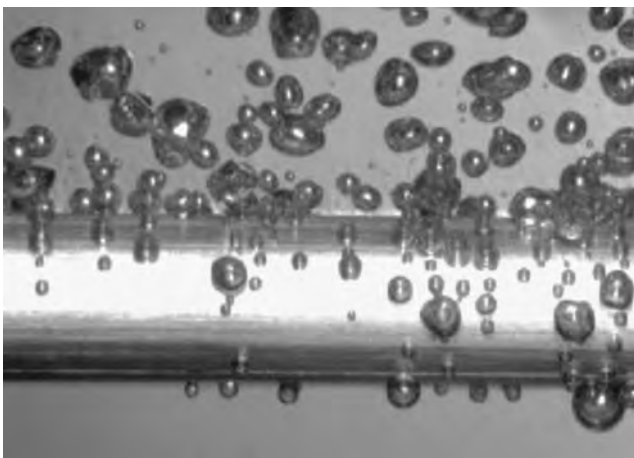

FIGURE 9.8 Nucleate boiling illustrated.
- In *nucleate boiling*, vapor bubbles form at the heat transfer surface, break away, and are carried into the mainstream of the fluid. Once in the fluid mainstream, the bubbles collapse because the bulk fluid temperature is not as high as the heat transfer surface where the bubbles are created. Figure 9.8 illustrates nucleate boiling.